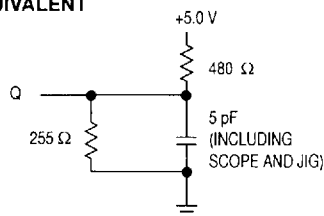

Figure 1B.
- Transition is measured ± 500 mV from steady-state voltage with load of Figure 1B.
6. Transition is measured ± 500 mV from steady-state voltage with load of Figure 1B.